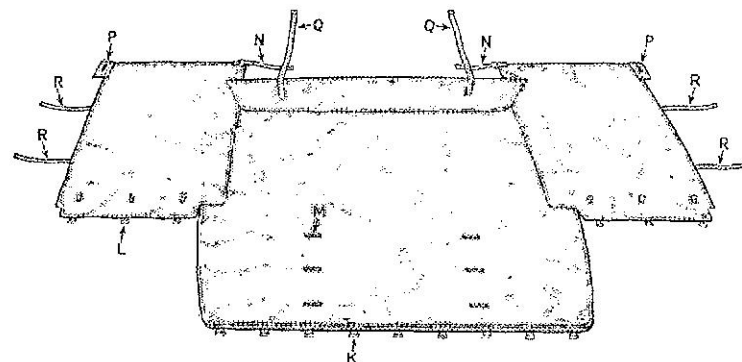

Fig. 42. 7-seater hood.
Place the hood over the hood-sticks and engage the eyes (K) at the front with the hooks on the outside of the top rail of the windscreen. The front sides of the hood may now be wrapped round the upright members of the front hood-stick; secure them by placing the eyes (L) over the wire loops and threading the webbing tongues through the loops. Unhook the front roof-straps from the windscreen, thread them through the webbing loops (M) sewn to the inside of the hood top, re-fasten them to the windscreen and tension. (Fig. 42).
windscreen top rail. The sides of the hood may now be wrapped round the upright members of the hood-stick; secure them by placing the eyes (L) over the wire loops and threading the webbing tongues through the loops. Unhook the roof tension straps (G) from the windscreen, thread them through the webbing loops (M) sewn to the inside of the hood top, re-fasten them to the windscreen and tension. (Fig. 42).